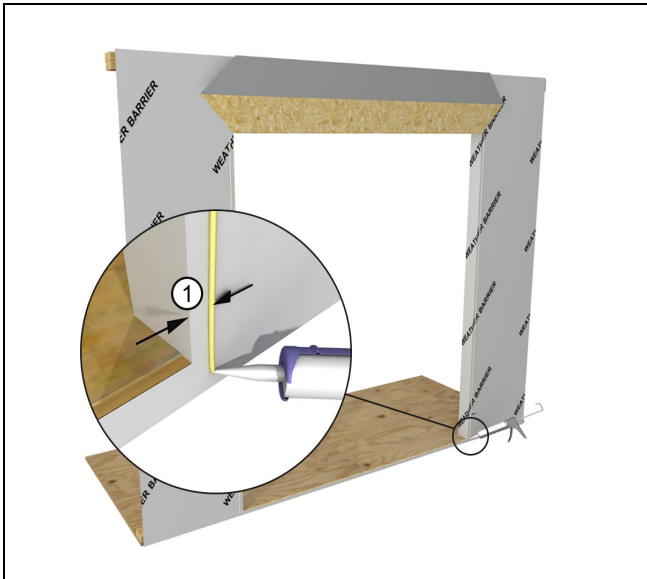

Figure 11
1. After the rough opening has been prepped (using either the air barrier or building paper methods), apply a continuous bead of sealant 3/4" (19) from the top and sides of the door opening. See Figure 11.